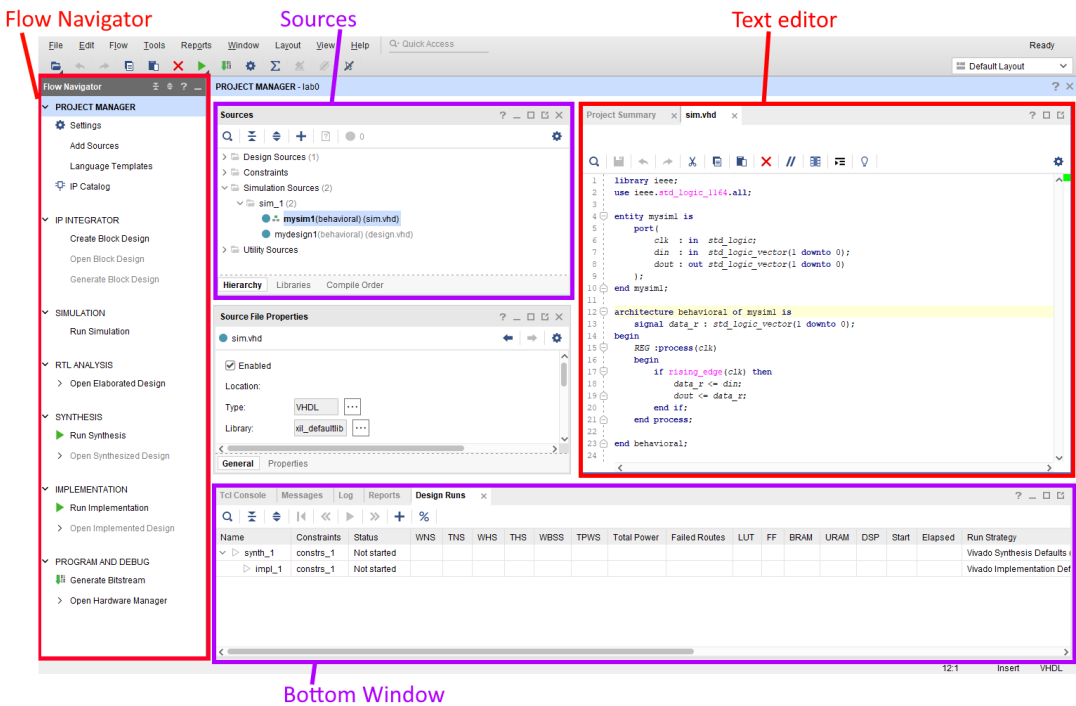

Figure 5: Vivado overview
2. Figure 5 provides a general **overview** of the windows you will see in Vivado